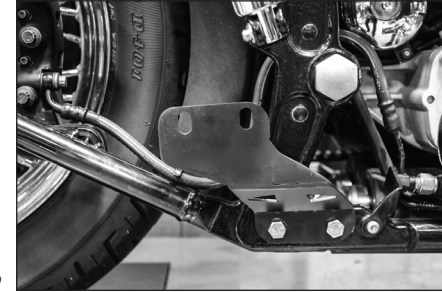

Fig 2
1. Install the new MagnaFlow exhaust mounting bracket using two of the supplied 3/8-16 x 5/8 inch bolts. Do not tighten at this time to allow for adjustment. (Figure 2)